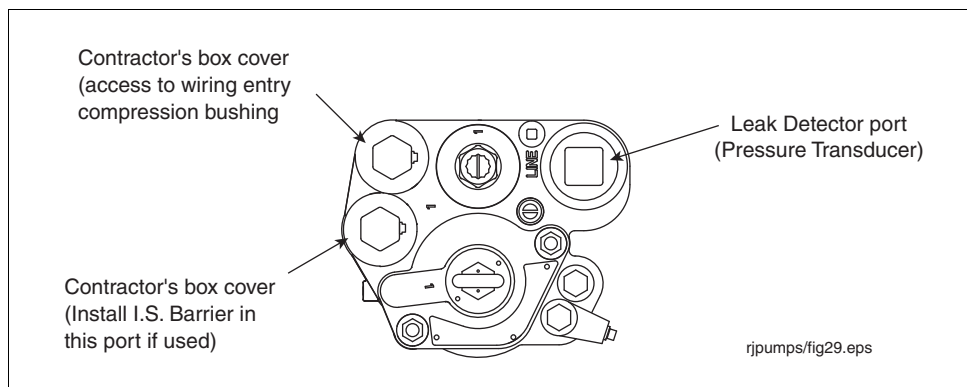

Figure 15. VSFC Component installation ports
Refer to the appropriate section of the PLLD Site Prep manual (P/N 576013-902) for transducer installation in the Leak Detector Port (see Figure 15).
If an I.S. Barrier is being installed, refer to the appropriate section of the VSFC Site Prep manual (P/N 577013-815) for installation instructions (refer to Figure 15 for installation port).
1. Remove and set aside the cover of the contractor's box over the wiring entry compression bushing (refer to Figure 15).